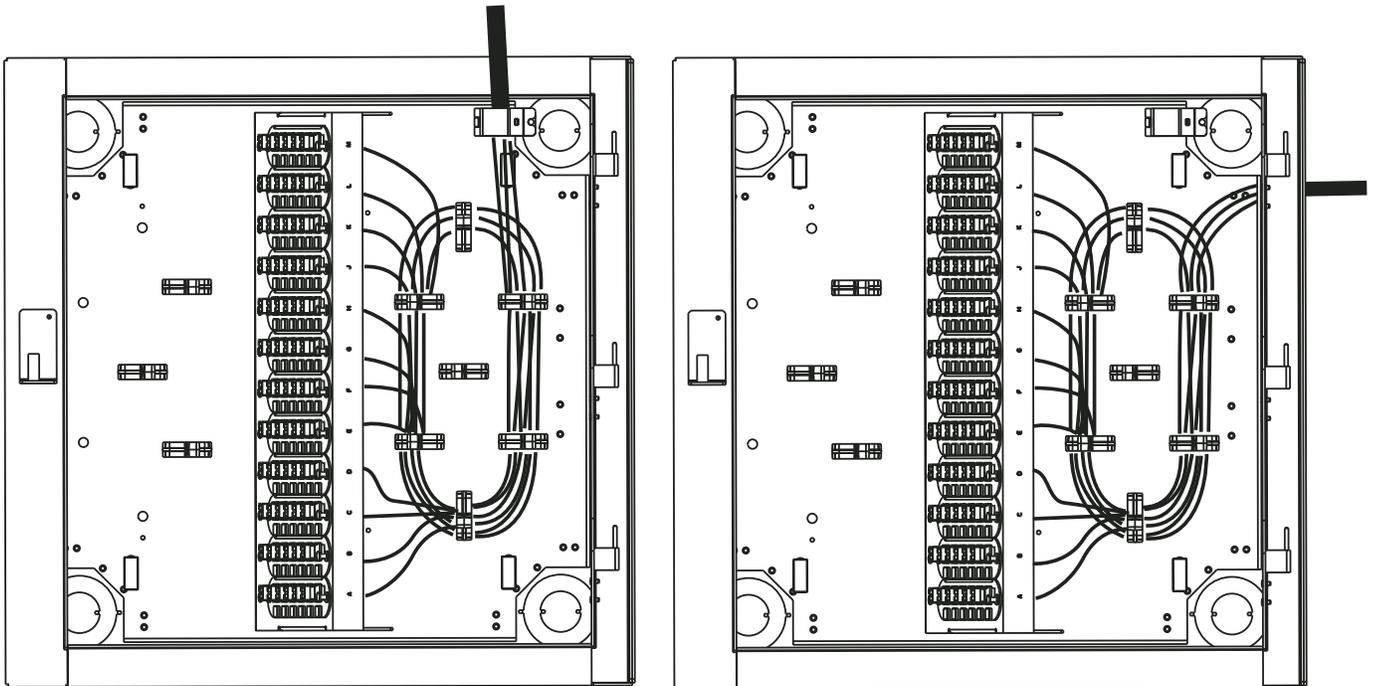

Figure 9
9.4 Secure the fiber in the fiber guides on the inner tray. Make sure there is adequate slack so that the fiber bend radius is maintained across the routing guides. Refer to Figure 9 for examples of routing configurations.